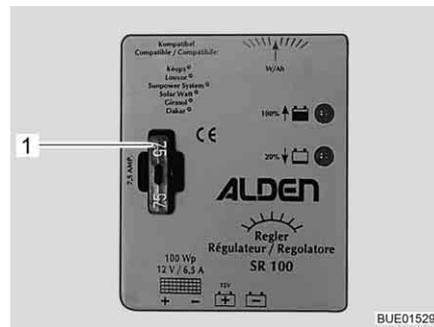

Fig. 173 Fuse of the 100 W solar charge regulator
- Replace flat fuse 5 A/light brown (Fig. 173,1).